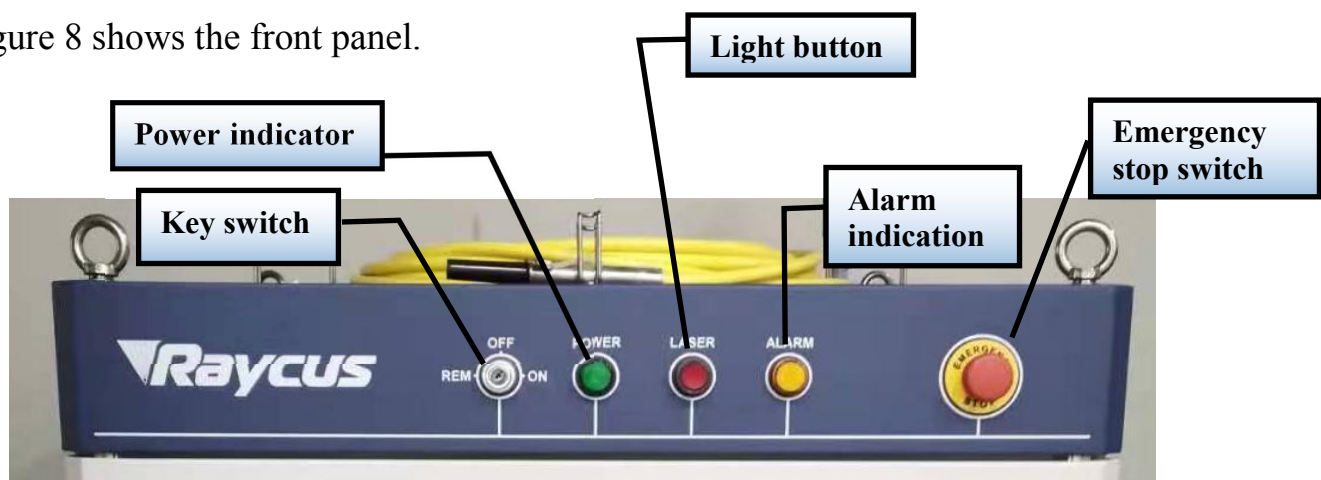

Figure 8 Front view of the panel.
- (1) Place the laser horizontally in a suitable position and fix it as necessary;.
- (2) Before the laser is powered on, Please check the power supply has the correct voltage (380VAC  $\pm$  10%, 50/60Hz, See Table 2 Product Technical Data Sheet for details.), please refer to the technical parameter table of Table 2 for details, whether the grounding line is well grounded.
- (3) Connect the power cable and control cable to the product when power supply is OFF.
- (4) Clamp the water pipes on topipe connector, run the chiller to check if there is any leakage in the water circulation.
- (5) Check the output head and clean it before installation. This procedure must be performed by Raycus personnel or person authorized by Raycus.
- (6) Prevent the delivery cable from treading, pinching or excessive bending during installation.
- (7) Make sure the environment is clean, or the output head may be contaminated. It is prohibited to use fan during installation, which will cause dust in the air.
- (8) The minimum bending radius of the transmission cable of the laser shall not be less than 20cm in the non-working state (such as transport and storage). The minimum bending radius should not be less than 30cm when the laser is work.
- (9) Users can employ four lifting rings or rollers on the top or bottom of the device to carry or move it, as shown in figure8 (please check whether the lifting rings are installed firmly and whether the rollers are fully mobile before transporting the device).
Figure 8 shows the front panel.